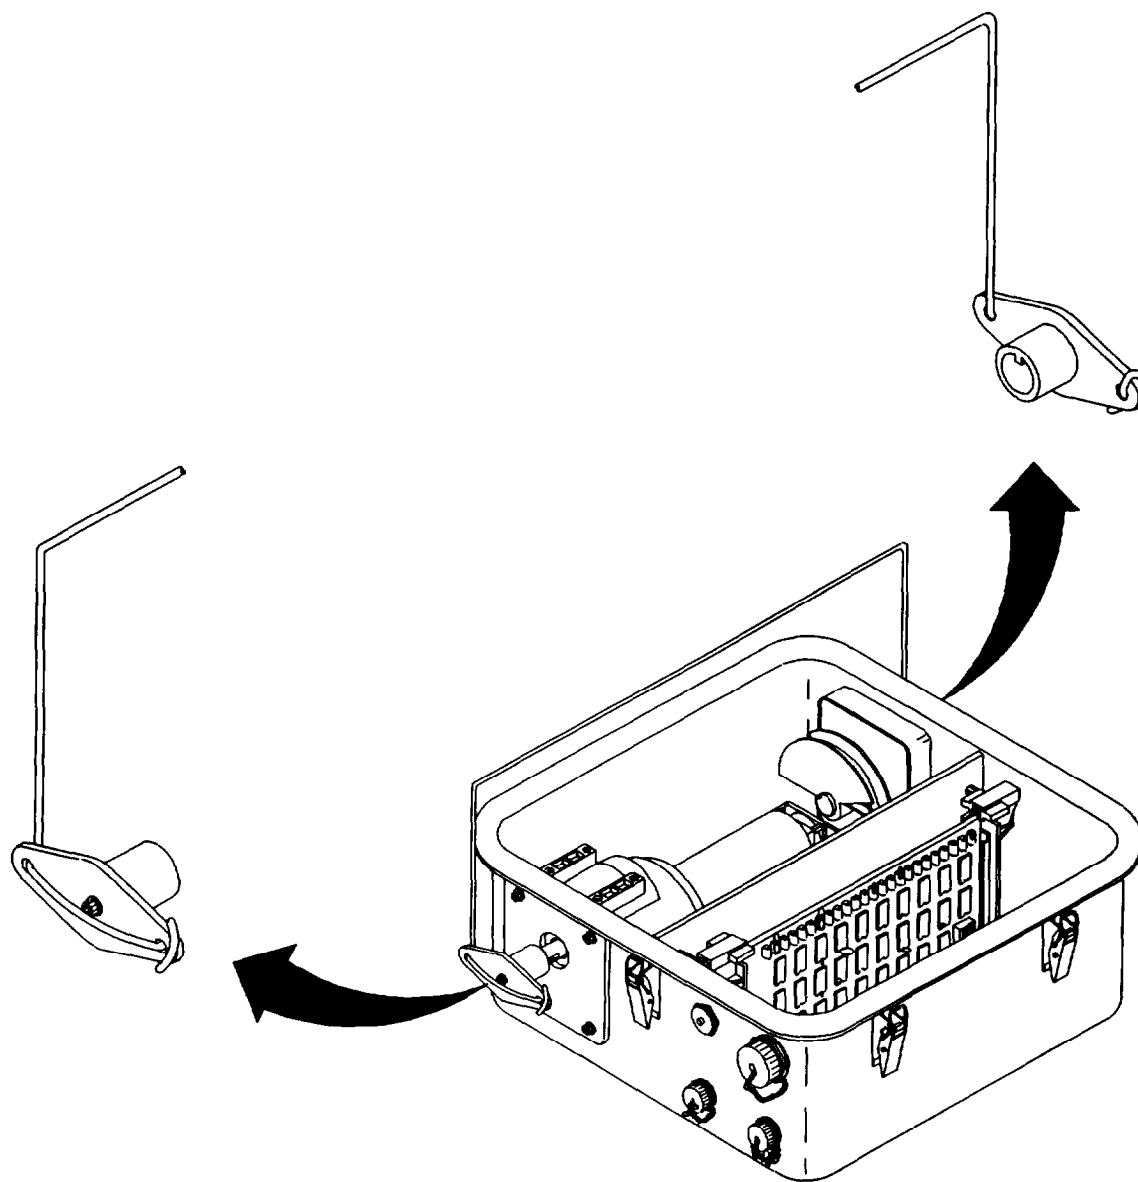

Figure F-3. Installation of Test Arm on ITM.
2. Installation of test an (reference figure F-3):